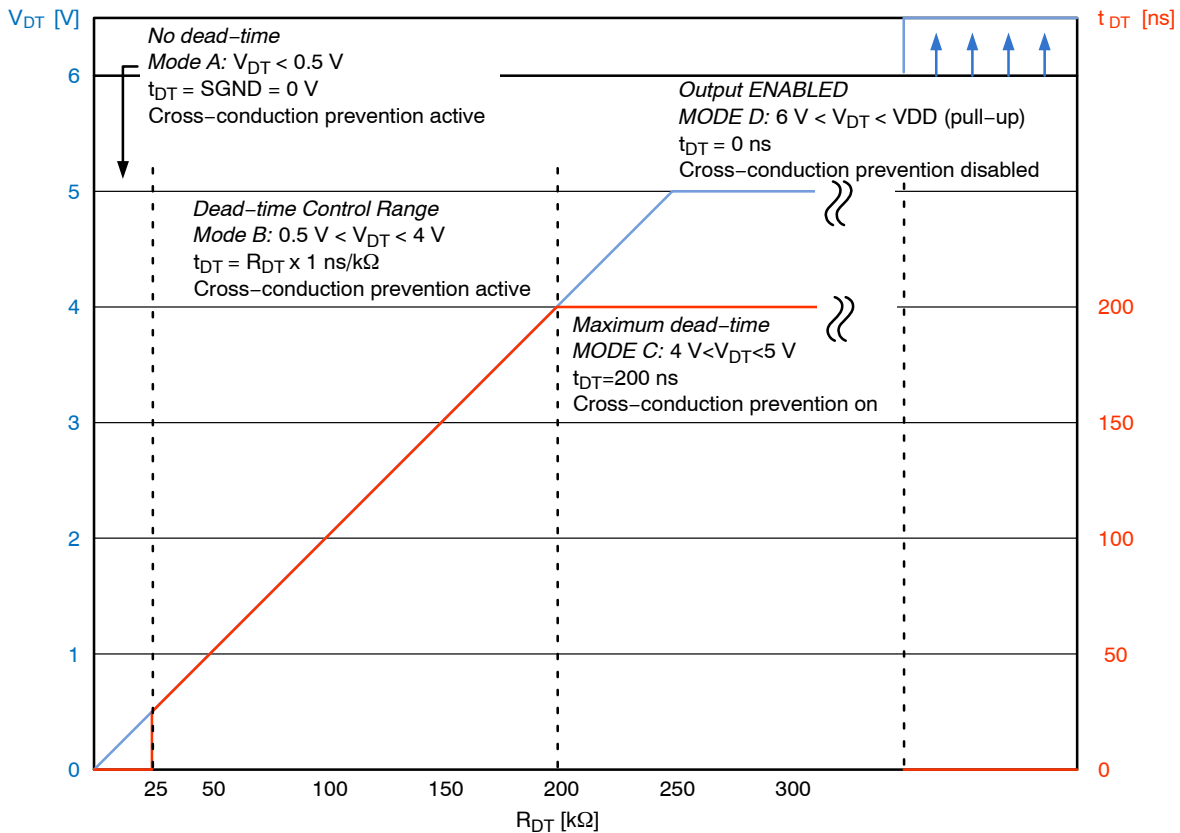

Figure 29. Dead-Time Control,  $t_{DT}$ ,  $V_{DT}$  vs  $R_{DT}$
*Connect a  $25 \text{ k}\Omega < R_{DT} < 200 \text{ k}\Omega$  Resistor from DT to SGND;* Dead-time is programmable by a single resistor connected between the DT and SGND pins. The amount of desired dead-time can be programmed via the dead-time resistor,  $R_{DT}$ , between the range of  $25 \text{ k}\Omega < R_{DT} < 200 \text{ k}\Omega$  to obtain an equivalent dead-time, proportional to  $R_{DT}$ , in the range of  $25 \text{ ns} < t_{DT} < 200 \text{ ns}$ . If either edge between HIN and LIN result in a dead-time less than the amount set by  $R_{DT}$ , the set DT value shall be dominant. If either edge between HIN and LIN result in a dead-time greater than the amount set by  $R_{DT}$ , the controller dead-time shall be dominant. The control voltage range,  $V_{DT}$ , for  $R_{DT}$  is  $0.5 \text{ V} < V_{DT} < 4 \text{ V}$ . DT programmability is summarized and shown graphically in Figure 29.
*Connect a  $249 \text{ k}\Omega$  Resistor from DT to SGND;* Connect a 249 k $\Omega$  resistor between DT and SGND to program the maximum dead-time value of 200 ns. The control voltage range,  $V_{DT}$ , for assuring  $t_{DT} = 200 \text{ ns}$  is  $4 \text{ V} < V_{DT} < 5 \text{ V}$ . DT programmability is summarized and shown graphically in Figure 29.
*Connect DT to VDD;* When the DT pin voltage,  $V_{DT}$ , is greater than 6 V (pulled up to VDD through 10 k $\Omega$  resistor), anti-cross-conduction protection is disabled, allowing the output signals to overlap. This operating mode is suitable for applications where it is desired to have both driver output stages switching simultaneously. If choosing this operating mode while driving a half-bridge power stage, extreme caution should be taken, as cross conduction can potentially damage power components if not accounted for. This type of dead-time control is preferred when the controller will be making extremely accurate dead-time adjustments and can respond to the potential of over-current faults on a cycle-by-cycle basis. DT programmability is summarized and shown graphically in Figure 29.